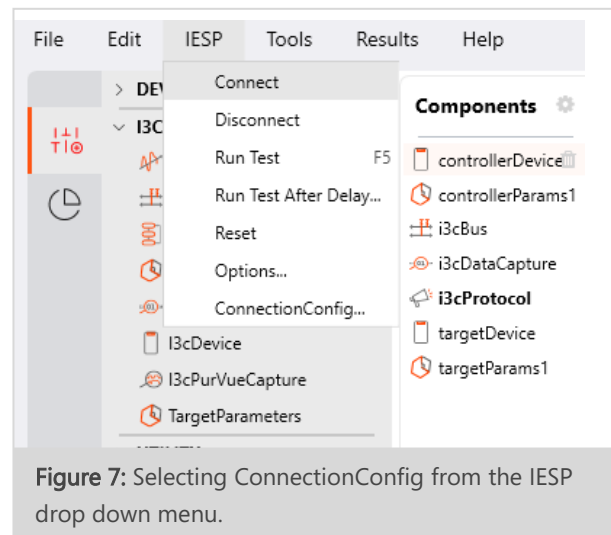

Figure 7: Selecting ConnectionConfig from the IESP drop down menu.
- a) If it is not yet open, launch Pinetree and select the “SV6E_I3C_EXERCISER” form factor. From the main GUI window, click the “IESP” drop down menu and click “Connect”, as shown in Figure 7. Establishing the connection should take a couple of seconds.